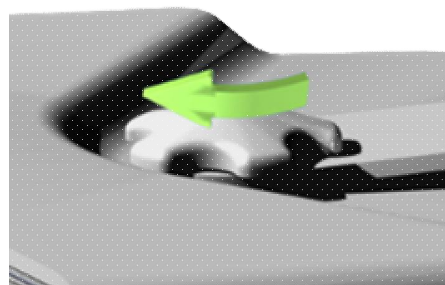

Fig. 13 - Locking the Yoke Knobs Into Position
- Once in position, re-tighten the loudspeaker yoke knobs by hand to secure the loudspeaker (see figure 13). *Use of tools on these knobs is not recommended.*